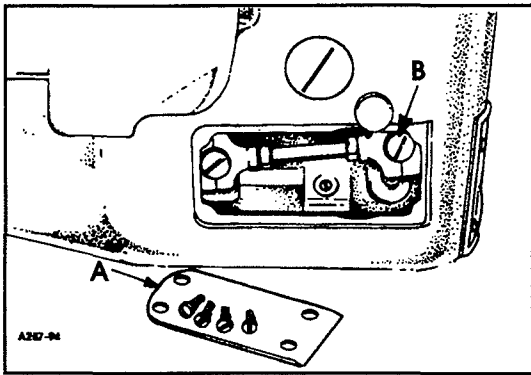

FIG. 8
If more or less looper avoid motion is required, remove cylinder side cover (A, fig. 8) located at the lower front left side. Use a screwdriver to loosen looper avoid link ball joint (B). Moving ball joint down in the lever slot increases the amount of looper avoid motion, moving it up acts the reverse. Retighten ball joint (B) securely.